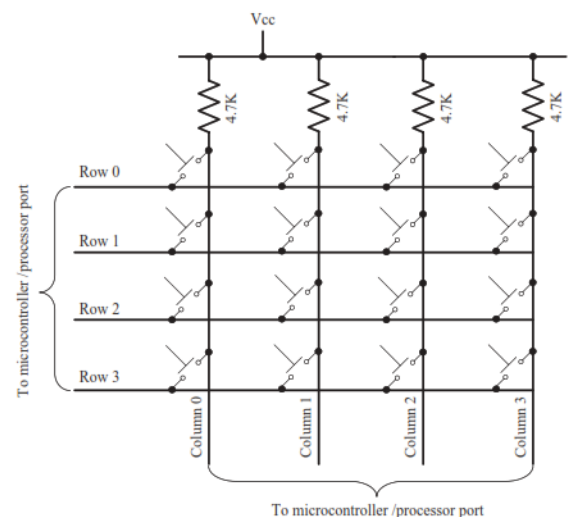

Fig. 2.24 Matrix keyboard Interfacing
- Figure 2.24 illustrates the connection of keys in a matrix keyboard